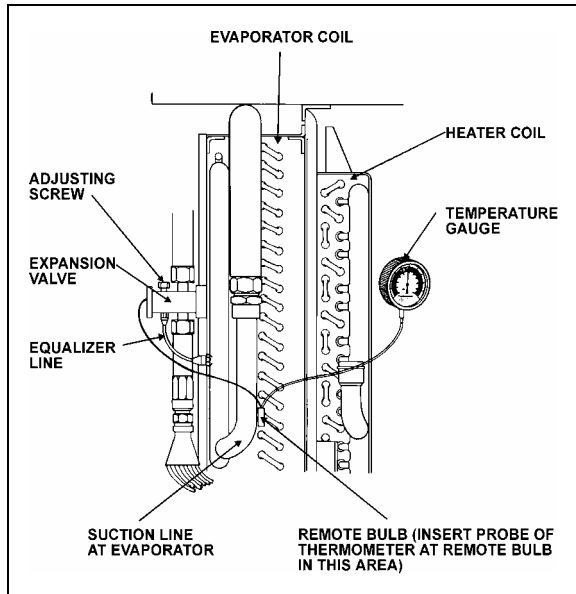

FIGURE 32: SUPERHEAT ADJUSTMENT INSTALLATION²²⁰⁴⁶
The starting method of adjusting the superheat is to unscrew completely the main evaporator expansion valve adjusting screw, then screw in 13 turns clockwise for 134A (Fig. 32). Afterwards, the following procedure should be followed:
3. Install a remote reading thermometer to the evaporator outlet line near the existing remote bulb (Fig. 32).